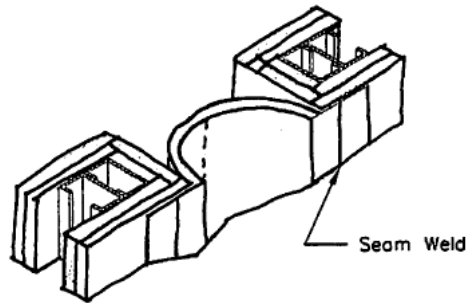
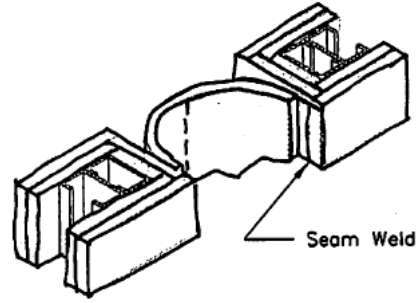

Fig. B1
Fig. C1
1. After completing material preparation described on page 1 and as shown in Fig. A, place the fire barrier in the expansion joint. The foil flanges can be entirely on the exposed surface of the wall for the surface mount galvanized flange. (Fig. B1) With the Low Profile galvanized flanges, the foil flanges can be inside the joint cavity so that no part of the barrier is on the exposed surface of the wall. (Fig. C1)